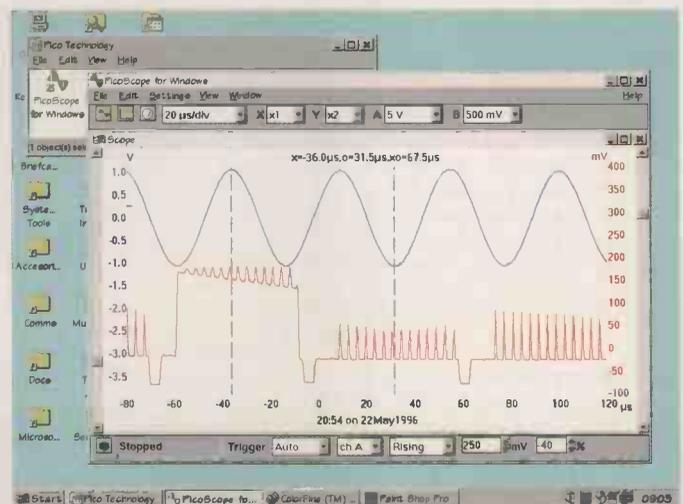
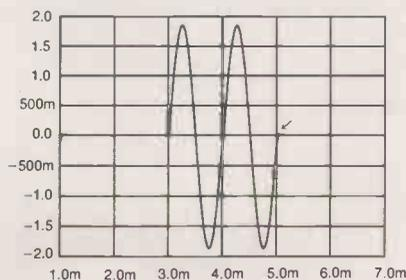

Fig. 3. PicoScope for Windows in oscilloscope mode.
Fig. 1. The 1kHz test-tone burst employed to test speaker cables. In Figs. 3 and 4, the arrowed area is magnified.
The new Windows software is impressive as it manages to run real time displays at a decent speed in a scaleable window, Fig. 3. This has always been difficult to achieve due to the enormous graphics overhead of Windows, so congratulations to Pico.
When any expansion other than  $\times 1$  is selected scroll bars appear, Fig. 3, allowing the axes to be scrolled to show any part of the expanded axis in the display window. Under the default  $\times 1$  magnification the two traces for the *ADC200* are overlaid in different colours, the axes being coloured to suit. While fine for some measurements, many people including me prefer to separate the traces vertically. This can be achieved in *PicoScope* by expanding the vertical axis, shifting the zero point of each trace to the required location and reducing the input sensitivity to suit. Although a little clumsy and less than obvious – it took me a while to discover this – it works fine once mastered.
By the time video signals are reached, the 20MHz *ADC200* is beginning to show its limitations and the 50 would be useful. The lower trace shown in Fig. 3 is from a cheap video signal generator producing a white crosshatch pattern on a black background. Effects of aliasing, due to the digital sampling, can be clearly seen on the amplitude of the sharp vertical 'spikes' which form the fine white lines of the crosshatch pattern on the video signal. These are uniform in amplitude.
In 1995, I devised a simple but quite realistic test for speaker cables that would show what is going on in a graphic sense, applicable to real music signals, with their perpetual discontinuity. The Dual-Domain version of the Audio Precision (AP) test set has a DSP-based FFT-test routine called 'FFT-80k' with 192kHz sample rate, which allows audio burst sinewaves to be graphed over time, Fig. 1 – analogous to a transient analysis simulation. A similar test but using a squarewave has been subsequently drawn to my attention in a less rigorous report by the high-fidelity accessories maker, QED4.
Each of the graphs, Figs. 3 & 4, is a magnification of the point immediately after the sine-burst stops, as arrowed in Fig. 1. In each graph, one response is almost flat. This is the more tightly controlled response at the amplifier output, i.e. the stimulus end, as shown in red, in my Feb '96 simulation plots. Deviations here reveal transient feedback control deficiencies. The outermost, wilder response is that at the speaker end. The differerent magnitudes directly show the degree by which cables impede the amplifier's feedback damping control at the speaker terminals.
**Fig. 3.** Damping of ordinary pvc insulated mains flex, comprises 50/0.25 plain copper conductors of circa 99.7% purity, with high or non-specific oxygen content, leading to early onset of chloride poisoning and oxide complexing. Circular conductors in a sheath of circular OD. Compare to Fig. 11 in Feb '96 EW.